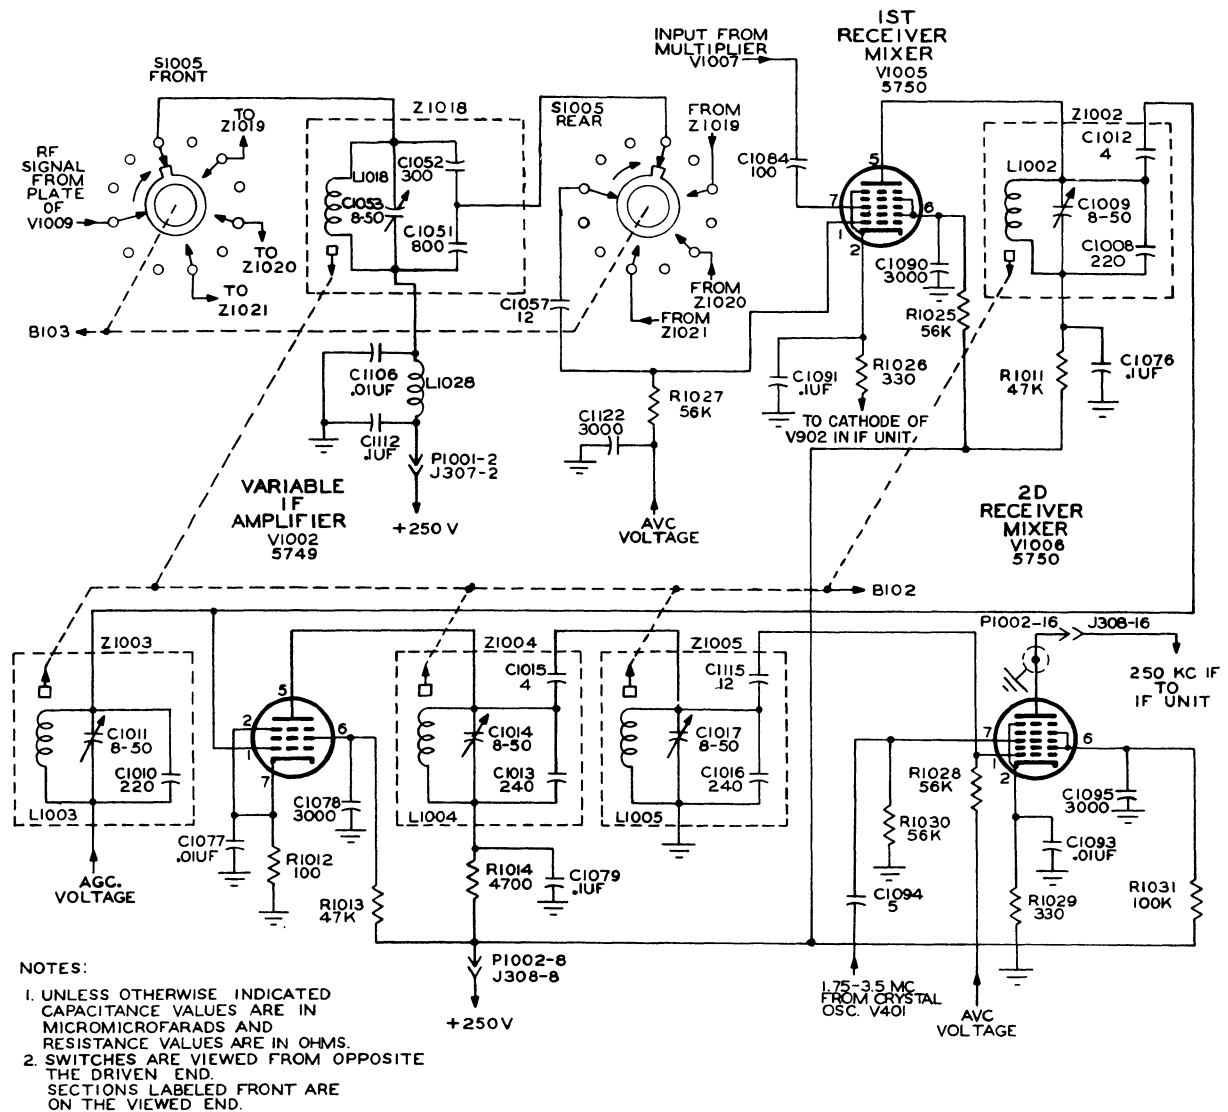

Figure 4-17. Receive Position, Mixers and I-F Amplifier, Simplified Schematic Diagram
4.9.3.2.3 MIXERS AND I-F AMPLIFIER. Refer to figure 4-17. The plate circuit of the second r-f amplifier is completed through contacts of switch